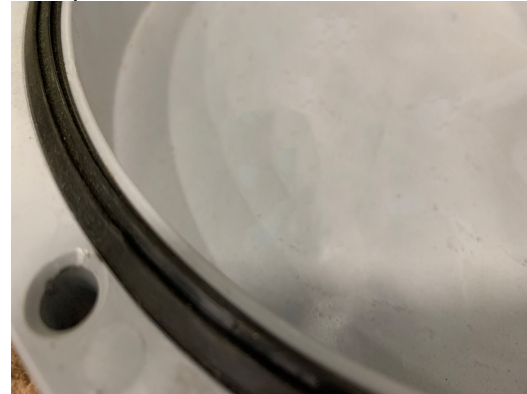

Fig. 12: Condensate Pan Gasket
2. Seat the new condensate pan gasket in the recess as shown in Fig. 12 with the side with less ribs facing upward.